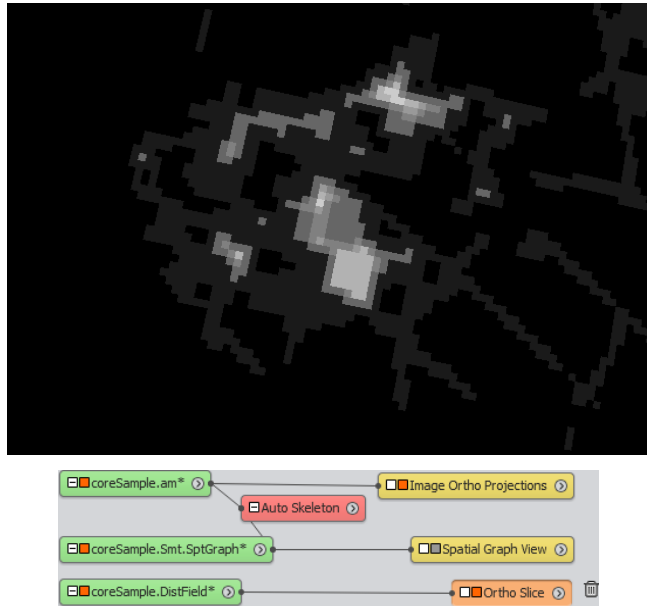

Figure 5.49: Visualization of the colored *Line Set View* and the associated project view.
- Attach an *Ortho Slice* to the distance map field `coreSample.DistField`. Result may look like Figure 5.49.